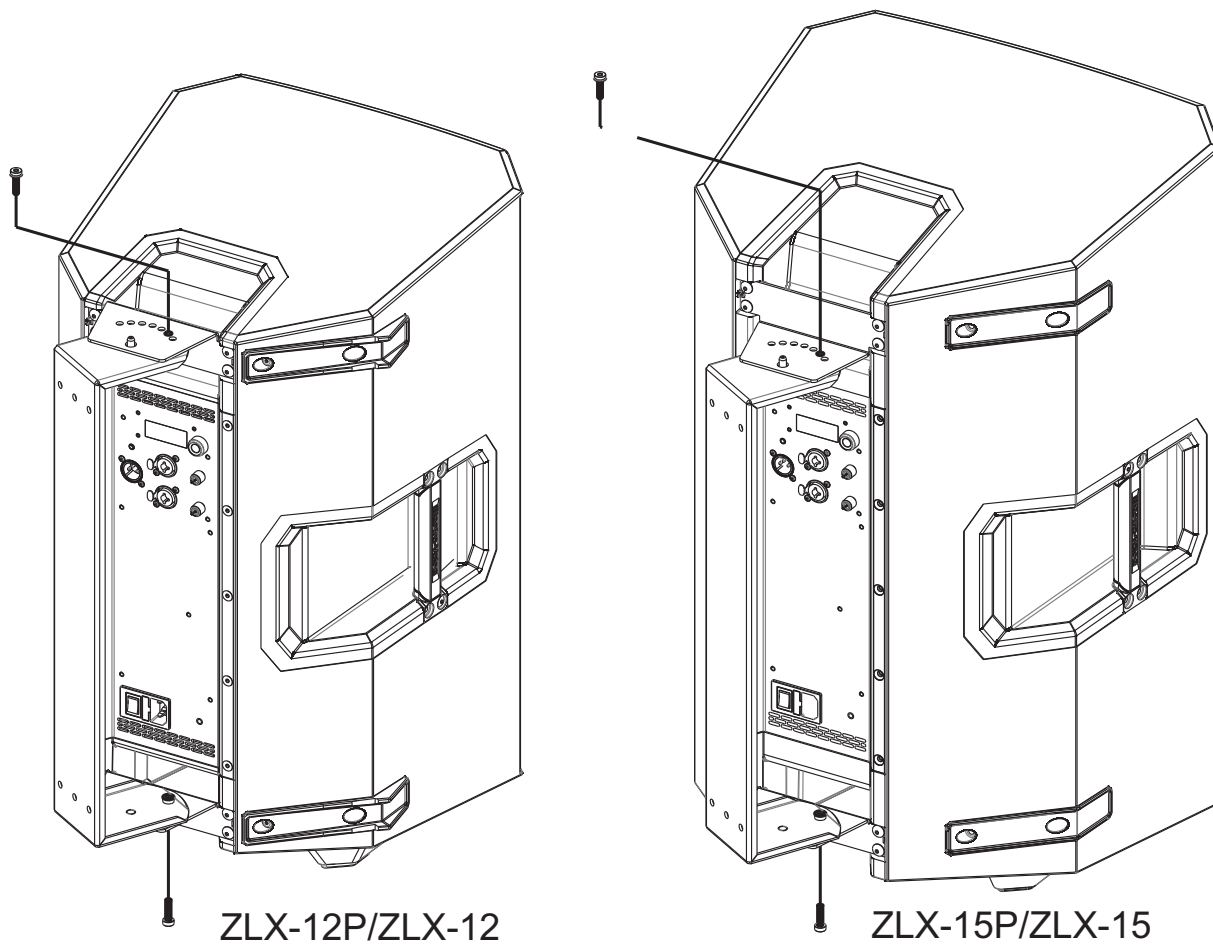

Figure 2.5: Secure Loudspeaker
5. Insert and tighten the **two (2) screws (supplied)** sufficiently so the loudspeaker does not inadvertently rotate (see Figure 2.5).